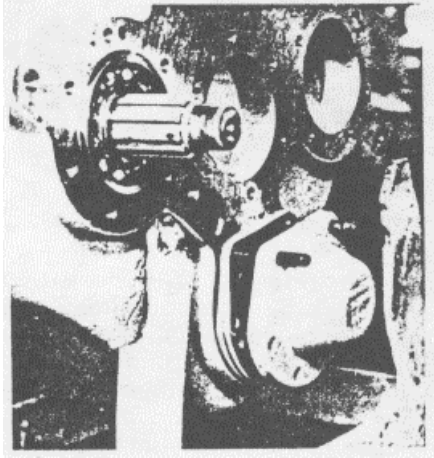

Fig. 17
6. Installation of gaskets, bearing carriers, seal carriers and caps will be simplified if two guide studs are utilized (See Fig. 17). Guide studs may be made by cutting the head off a 7/16-14 bolt of about 2 inches in length. Point the non-threaded end and also slot the end to allow a screwdriver to be used, if necessary, for guide removal.
11. Temporarily Install the rear output shaft front cover (See Fig. 17). Do not install shims. Tighten the mounting bolts to approximately 25 lb. ft. torque. Measure the gap between the rear output shaft front cover and the case housing with feeler gauges. Add .010 to this figure and then select a shim pack that is equal to this calculated figure or up to .005 larger. Install shim pack, Permatex threads of retaining bolts and tighten to the specified torque.